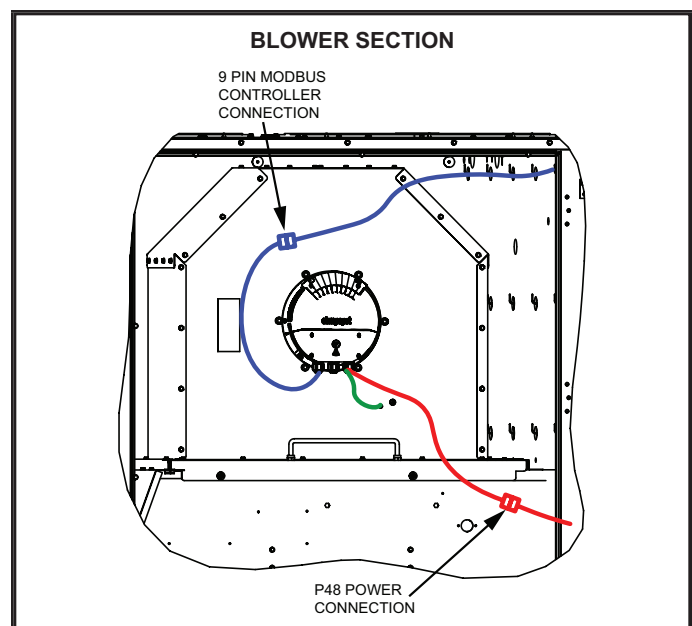

FIGURE 2
- 3 - Disconnect the Modbus 9-pin blower control plug located in the blower area. See FIGURE 2.
- 4 - Disconnect J48 from P48 in the blower area. See FIGURE 2.
- 4 - Connect the 9-pin plug to the blower Modbus/P335 control harness. See FIGURE 2